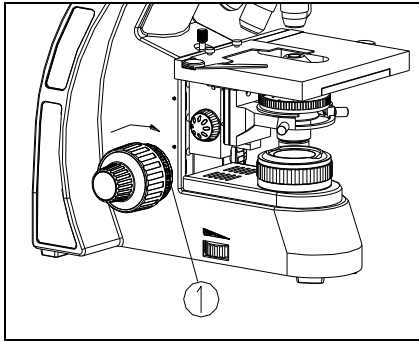

Fig. 12
If the handle is very heavy when focusing or the specimen leaves the focus plane after focusing or the stage declines itself, please adjust the tension adjustment ring① (see Fig. 12).